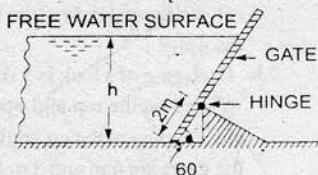

Fig. 3.56
16. A gate supporting water is shown in Fig. 3.56. Find the height 'h' of the water so that the gate begins to tip about the hinge. Take the width of the gate as unity. (Delhi University, 1986) [Ans. $3 \times \sqrt{3}$ m]